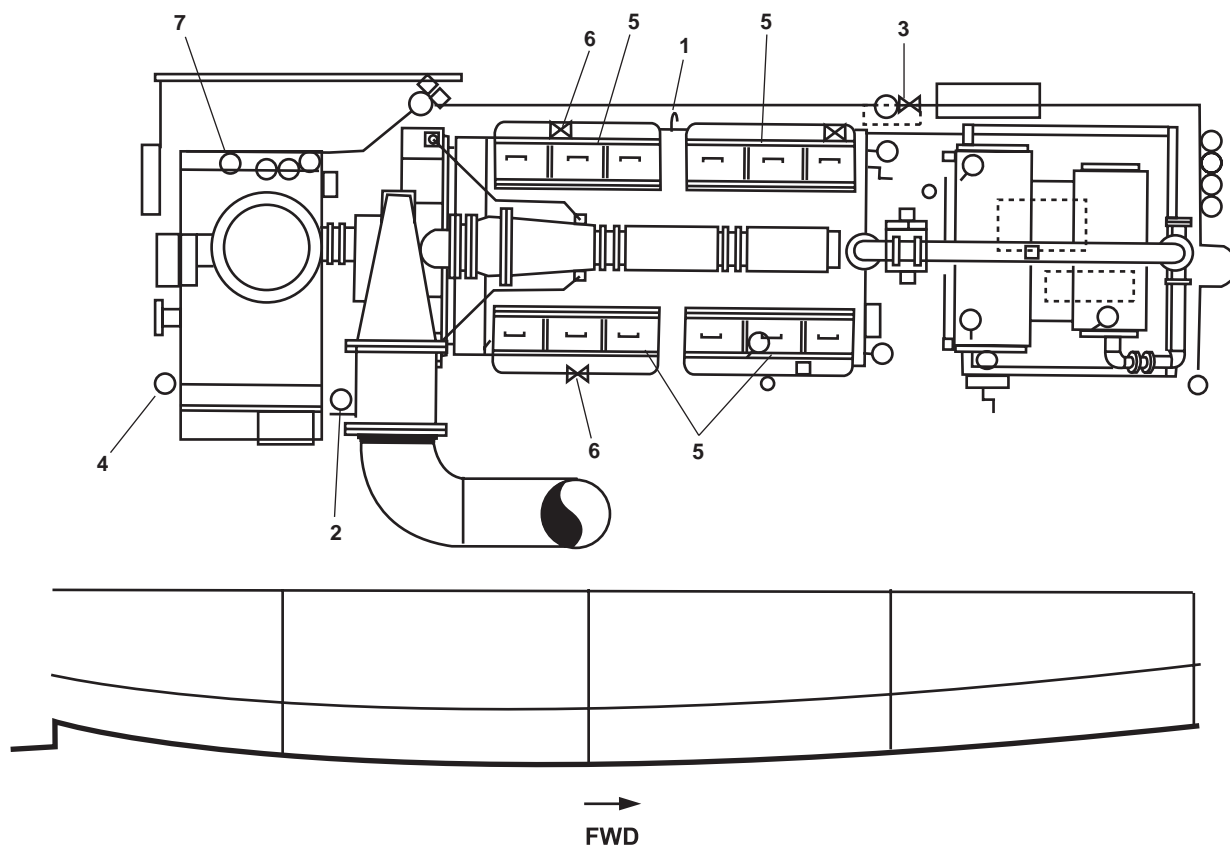

Figure 2. Starboard Main Engine and Reduction Gear
- b. On the main switchboard in the EOS, set the AFFF PUMP circuit breaker (figure 2, item 2) to OFF.
3. Check that the starboard main engine oil is at the normal level on the dipstick (figure 2, item 1). If the engine oil level is low, add oil until the proper level is achieved. Refer to TM 55-1925-208-24 or the maintenance supervisor for oil specification.
4. Check that the starboard reduction gear oil is at the normal level on the dipstick (figure 2, item 2). If the reduction gear oil is level low, add oil until the proper level is achieved. Refer to TM 55-1925-223-24&P or the maintenance supervisor for oil specification.
6. OPEN valve LO-48, C.O.V. PRELUBE PMP. DISCH. (figure 2, item 3).
19. Ensure that the shaft brake pressure gauge (figure 2, item 4) indicates 1200 to 1500 PSI (82.7-103.4 bar).
20. Open the engine top deck covers (figure 2, item 5) and check that the valve train is receiving adequate flow from the prelube pump. If the flow is adequate, close the engine top deck covers. If the flow is inadequate, notify unit maintenance.